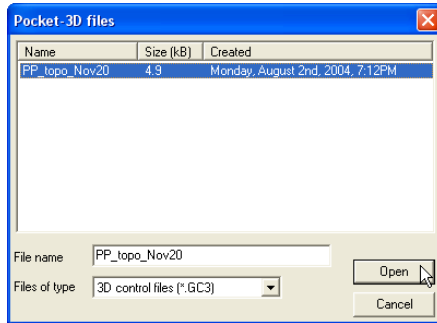

Figure 9-6. Select File and Click Open
2. On the *Pocket-3D files* dialog box, select the file type (*.gc3) and the desired file, then click **Open** (Figure 9-6).